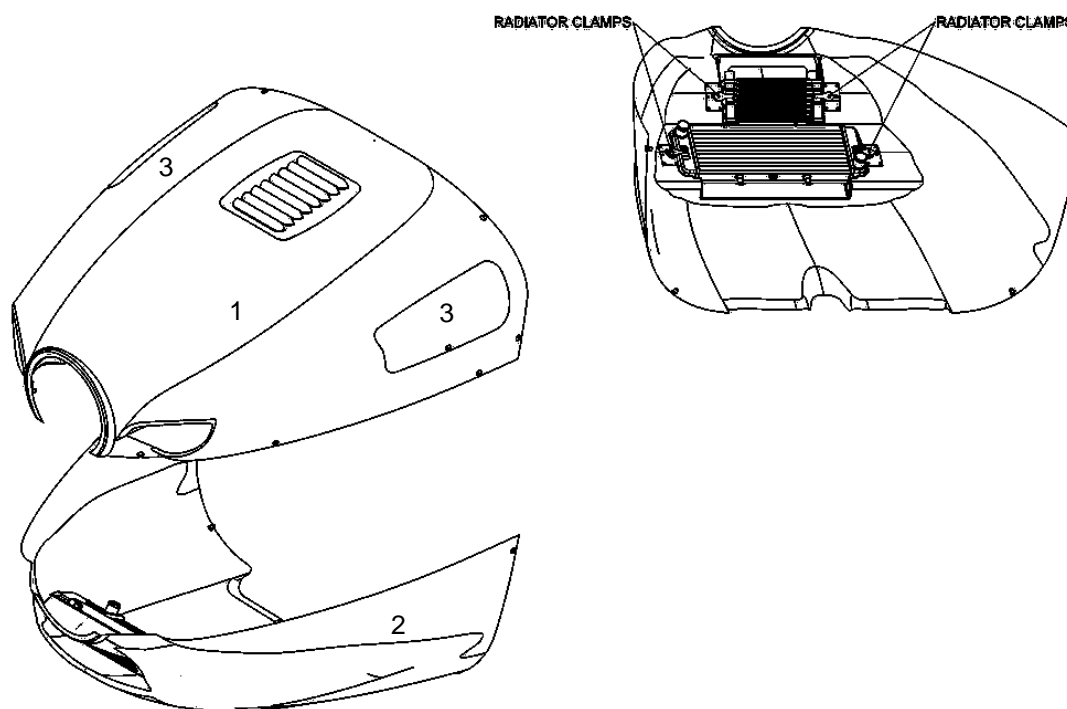

Figure 48: Engine cowlings.
Refer to Figure 48. The engine cowling is made up of moulded fibreglass upper (1) and lower (2) parts. Inspection panels (3) are located on the top cowling and are secured down by two Dzus fasteners. The cowling houses the engine, air filter, coolant radiator, oil radiator and oil reservoir. Air is provided to the air filter through the right-side intake. Circulation over the engine is provided by the front nose intakes. Additional circulatory air is supplied through the coolant and oil radiators. The outflow area is on the underside of the cowling, by the firewall.
2. Disconnect the air filter supply pipe (1) from the cowl inlet (2) by loosening the clamp (3) securing it to the inlet.
4. Release the four catches (4), one on each side of the coolant (5) and oil radiators (6). Also refer to Figure 48.